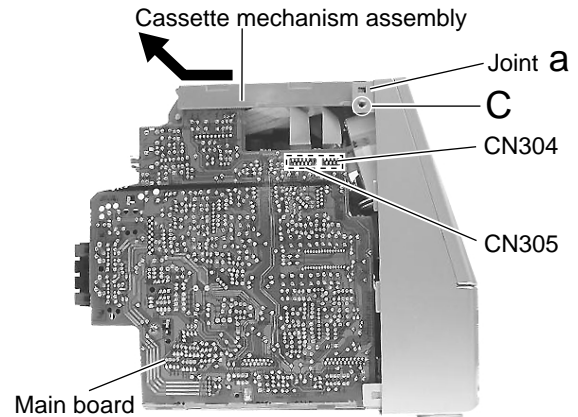

Fig. 6
**■ Removing the cassette mechanism assembly (See Fig. 6 & 7)**